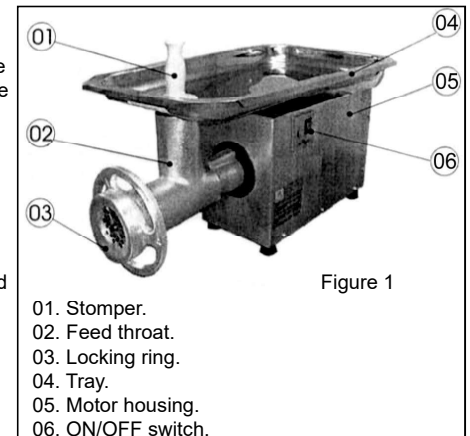

Figure 1
The feed throat (No. 02; figure 1) and worm (No. 03; figure 2) receive any special treatment to isolate and facilitate the cleaning.
3. Using the stomper (No. 01; figure 1), push the meat into the feed throat where they will be sucked in by the worm.
- Remove pusher (No. 01; figure 1) and tray (No. 04; figure 1).
- Remove locking ring (No. 03; figure 1), turning it clockwise, and the internal components of the barrel,